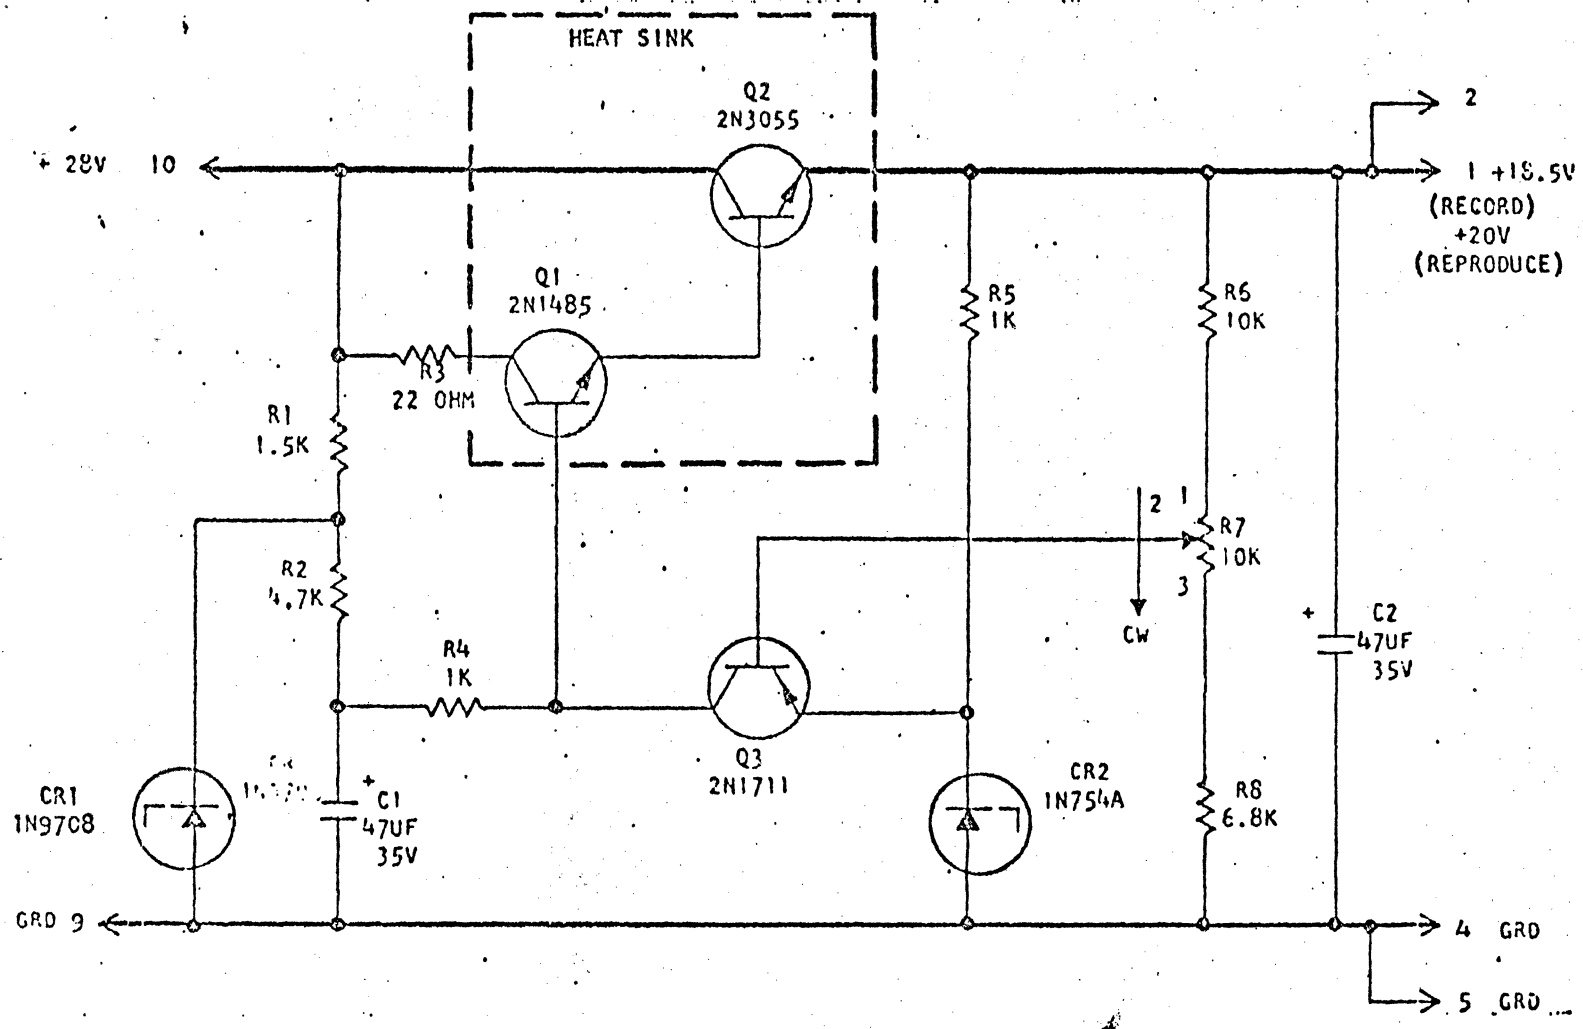

Figure A3-5
**A3.6 +20-VOLT VOLTAGE REGULATOR (85002601).** Refer to Figure A3-5. A +20 Vdc Voltage Regulator is installed in each of the two RAM units to provide regulated operating voltage for the 14 Reproduce Amplifiers. Power transistor Q2 is a series-regulator operating directly from the +28 Vdc primary power source, supplied to pin 10 of the regulator printed wiring board. The +20 Vdc output voltage is sensed across a voltage divider network consisting of resistors R6, R8, and variable resistor R7, and applied to the base of control transistor Q3. Transistor Q3 compares the sampled output voltage, from the center arm of R7, with a fixed reference voltage developed across zener diode CR2, and develops an output signal proportional to the difference, to drive transistor Q1, which, in turn, controls conduction of the series-regulator Q2. Zener diode CR2 and transistor Q3 have opposite temperature coefficients to compensate for changes in operating temperature. The input 28 Vdc is clamped by zener diode CR1 to approximately 24 Vdc, to drive the control circuit. Capacitor C2 provides filtering for the +20 Vdc output voltage, available at pins 1 and 2 of the regulator printed wiring board. Variable resistor R7 is used to adjust the output voltage to exactly +20 Vdc.